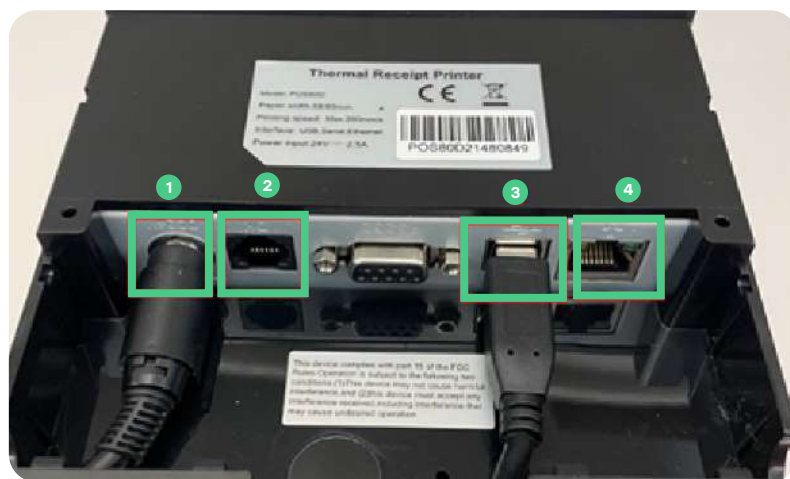

Figure 2. Printer with port for Power, Cash Drawer (Labelled DK) and USB Connection to POS Bridge Station.
Step 3. When the receipt printer is configured, a cash drawer must be attached. Receipt printers will have an access point labelled for **Cash Drawers**. See Figure 2.